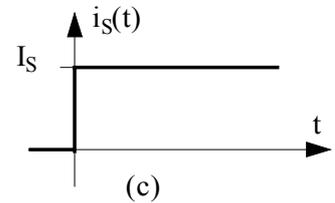

Figure 2.31 Circuits for problem 6.
6. Consider the circuits (a) and (b) given below. Both circuits are driven by a step current source  $i_s(t)$ , shown in Figure 2.31. Find and sketch  $i_C(t)$ ,  $v_C(t)$ ,  $i_L(t)$ , and  $v_L(t)$ . Assume that  $v_C(0) = 0$  and  $i_L(0) = 0$ .